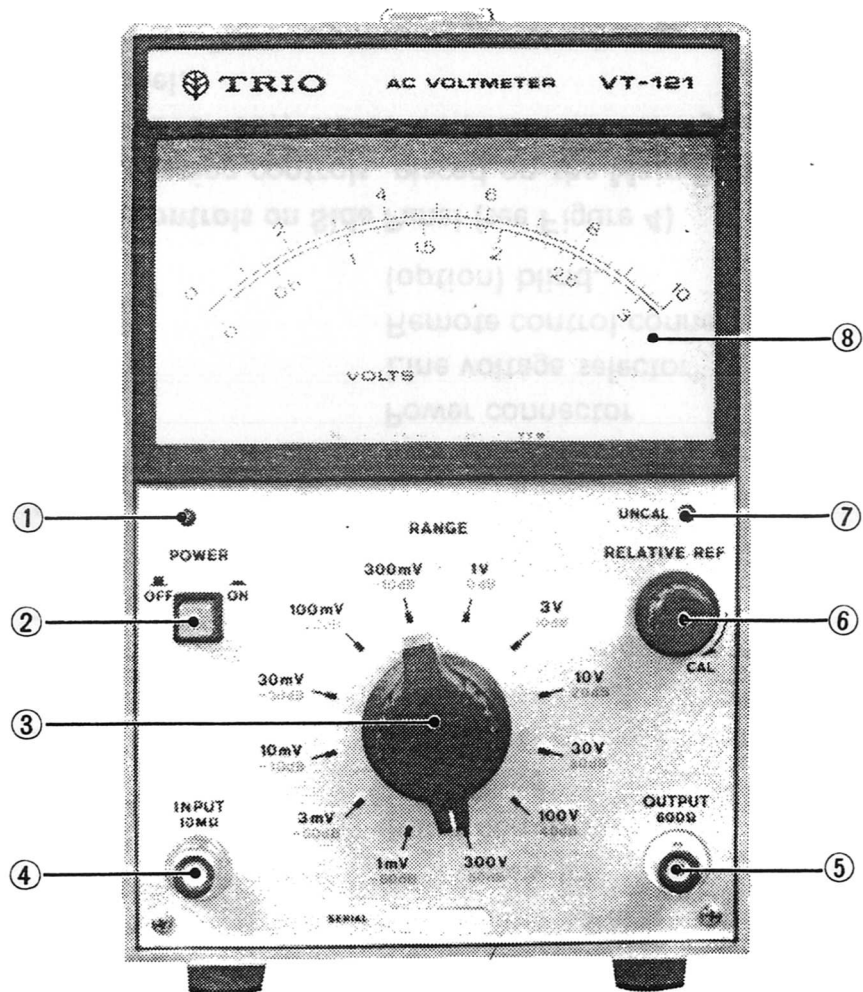

Figure 2 – Front Panel View.
1) Front Panel (see Figure 2)
Your VT-121 was precisely preset at the factory. However, it can be aligned through the adjust holes located on the right-hand side with leaving it housed in the casing, if required. In realignment, first adjust the line voltage to the voltage, use a precisely calibrated measuring instruments, and proceed as follows (also, see Figures 2 through 4).